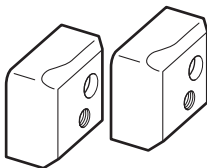
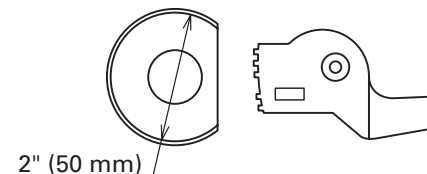

Fig. 25
Fig. 26
| (1) Cutter (Fig. 25)(Code No. 319706) | (2) Center Roller (D 50) Set (Fig. 26)(Code No. 321446) |
| (3) Center Roller (D 38) Set (Fig. 26)(Code No. 321445) |